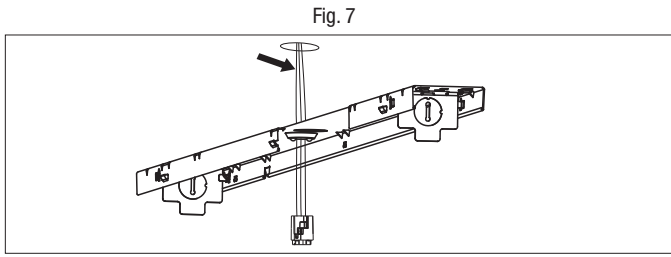
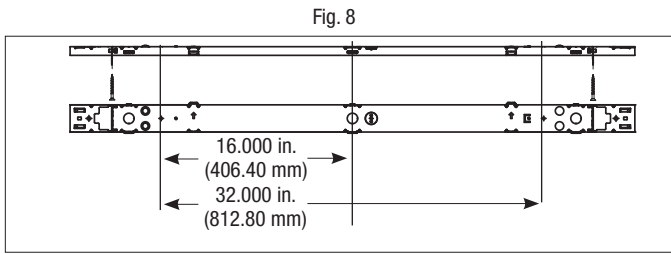

Fig. 7
Fig. 8
6. Run the power supply wiring to the inside of the channel (Fig. 7) and fasten mounting bracket to the mounting surface using 2 fasteners (Fig. 8) designed for the surface composition (i.e wood screws for stud mount) in designated holes.